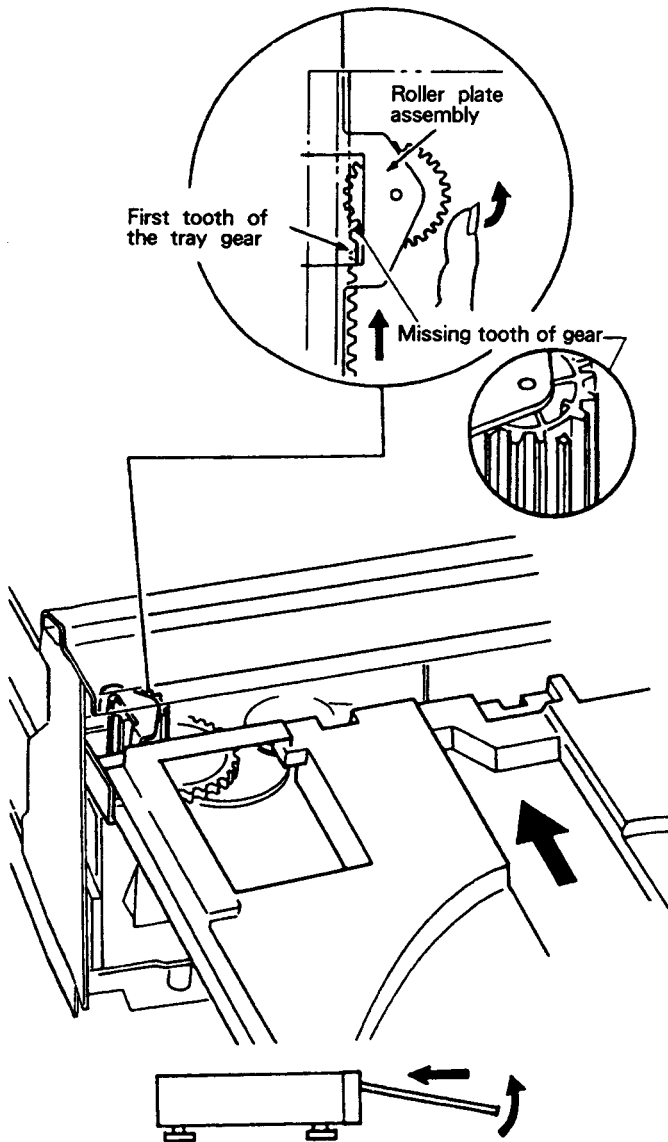

Fig. 7-17
**7.10.2 Positioning the tray (Fig. 7-17)**
- ① Set the player with the tray open.
- ② Set the roller plate gear so that the roller plate line intersects with the mid-point of missing tooth of the roller plate gear.
(At this time, adjust the position by the method shown in Fig. 7-17, or turn the power ON and use the SKIP (◀◀, ▶▶) buttons in the direction of OUT tilt it stops as shown in Fig. 7-17.)